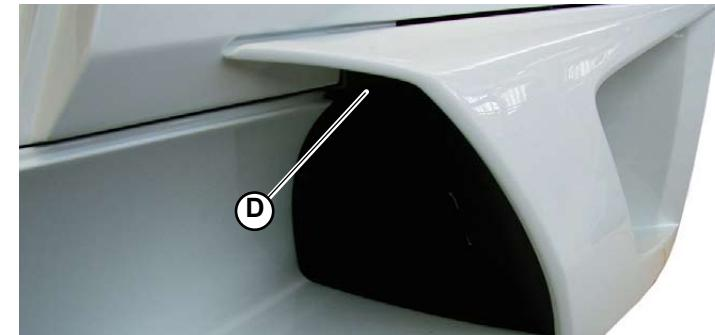

Fig.3
4. Unscrew the screw (D-Fig.3) at the front of the conveyor.